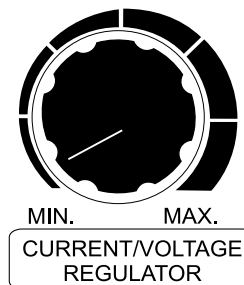

Figure 40. Current/Voltage Regulator Control Knob (Voltage Adjust)
4. Using the welding voltage control knob (Figure 40) adjust the voltage to the desired setting as referenced in Table 21 (Single Mode) or Table 22 (Dual Mode).